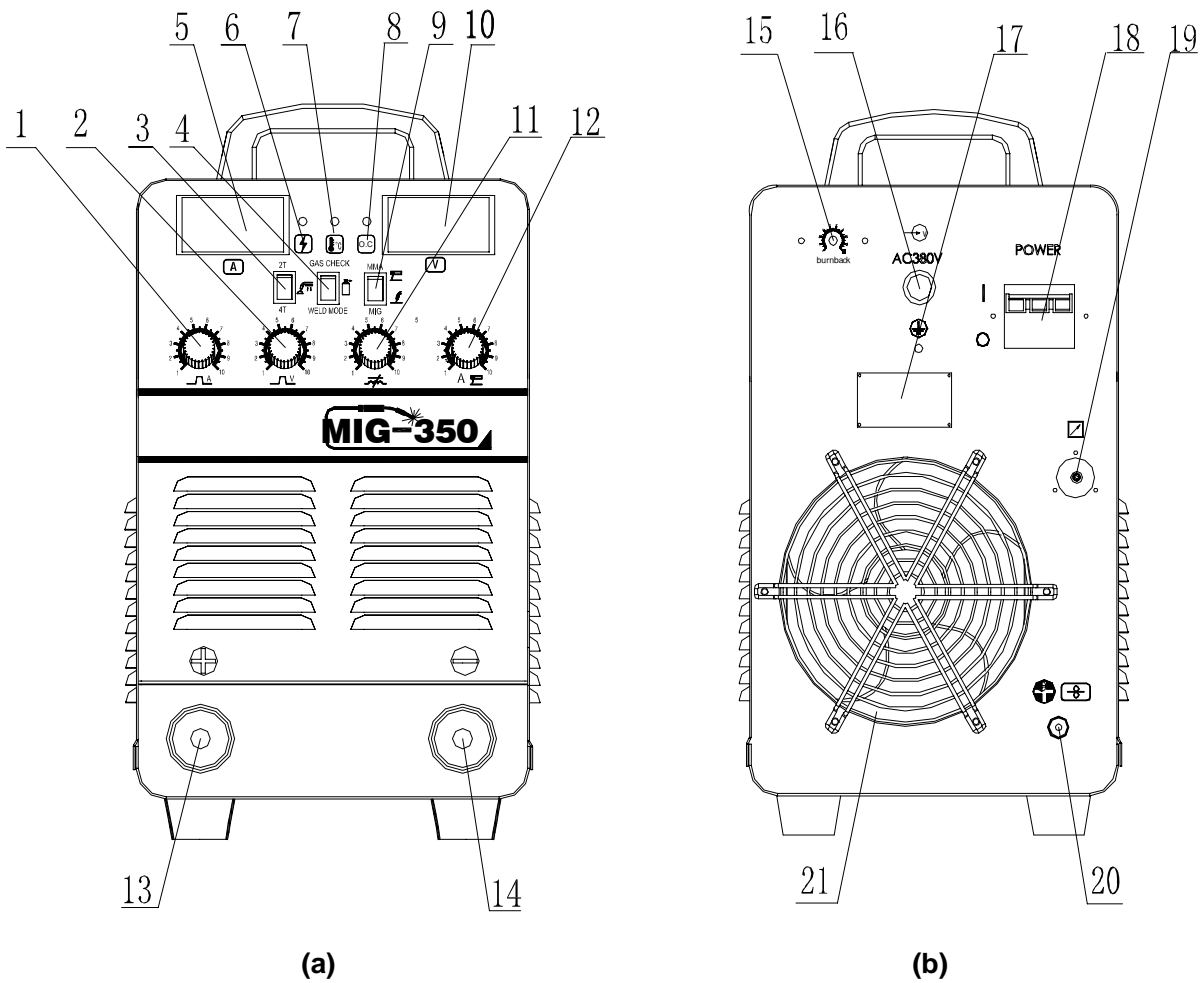

Figure 3.4 Panels of MIG 350(J72) series
4.1 Front panel (see Figure 3.4-a)
4.2 Back panel (see Figure 3.4-b)